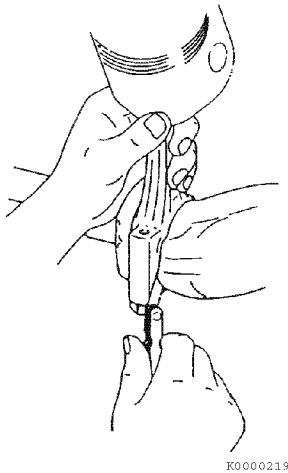

Figure 6-52
1. Using a feeler gauge, measure the connecting rod side clearance (**Figure 6-52**). See *Connecting Rod* on page 6-11 for the standard limit. If the measurement is out of specification, replace the crankshaft, connecting rod, or both.